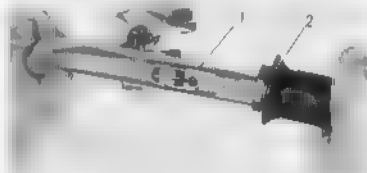

Fig. 4.15 Assembling throttle grip
- a. Apply grease on both the inside and outside of the pipe where the throttle grip is to be installed. This is to lubricate the movement of the throttle grip (2) and its component parts. (Fig. 4.15)